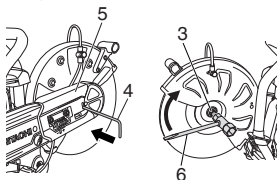

Fig. 7
2. Insert the hex. wrench (4) into the hole of arm cover (5) and lock the spindle in place while tightening the bolt (3) securely using the combi box spanner (6). (Fig. 7)